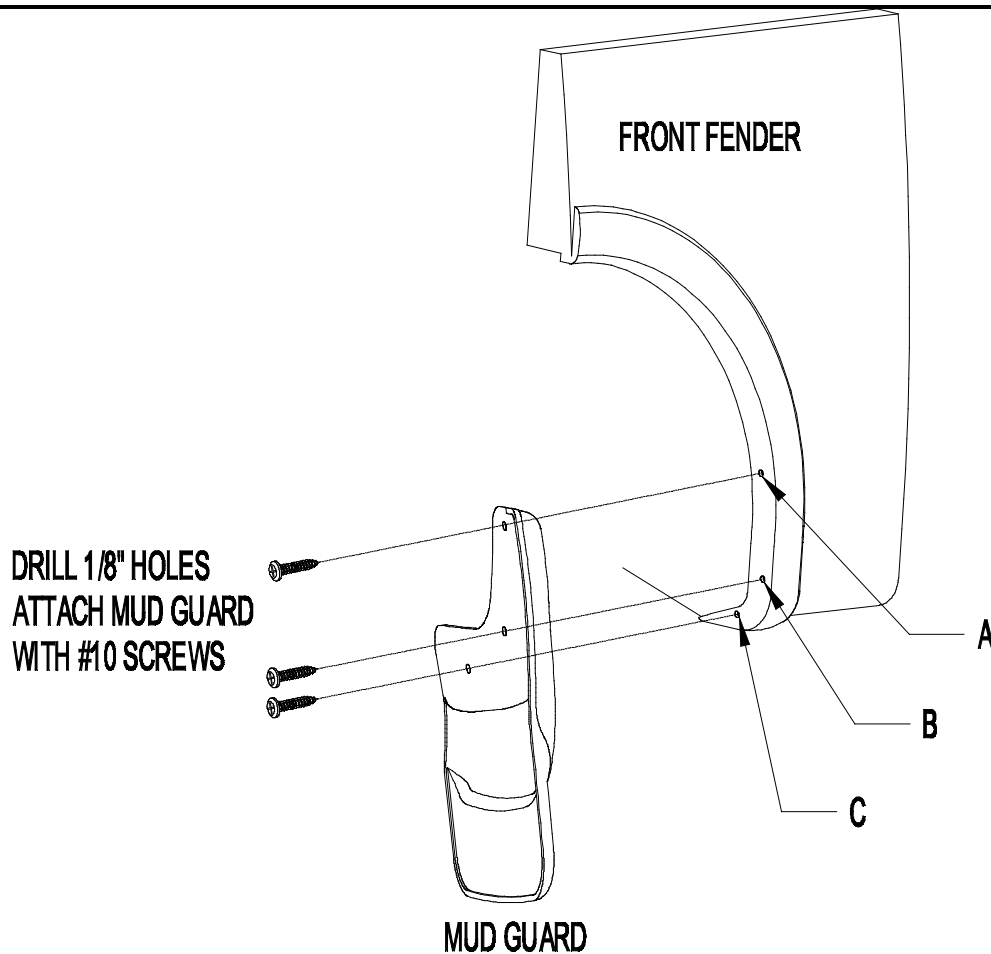

Figure 1
2. Place mud guard against front fender and using mud guard as a template mark and drill 1/8" holes at locations A, B, and C (Figure 1).